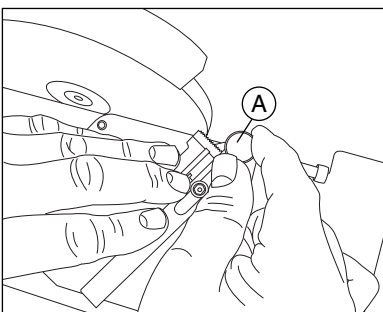

fig. 5
6. When chaser face is cleaned up sufficiently, lock down lock knob "A" (fig. 5).